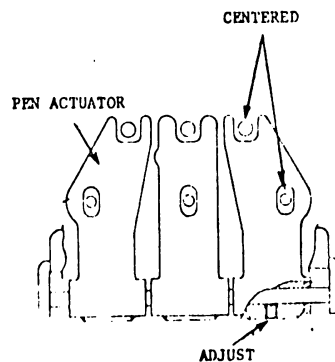

FIGURE 5-12 PEN ACTUATOR ADJUSTMENT
1. Pen centered on guide pins and solenoid adjustment screw (Figure 5-12).